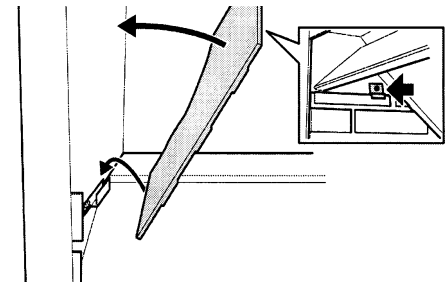

Figure 5 Fitting the sidewalls
- Insert the bottom edges into the support brackets. See figure 5.
- Secure the top of the sidewall using a small fixing bracket (provided in the loose parts pack) as shown in figure 5.